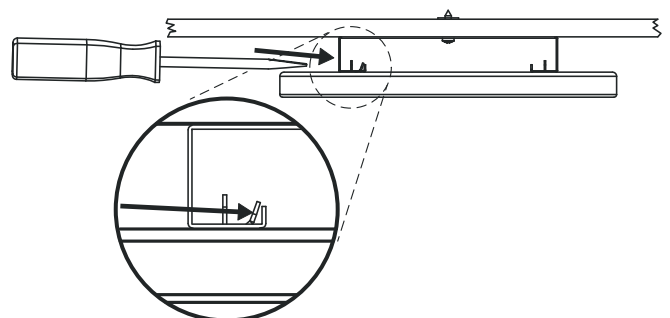

Figure 2.
- The front part is hooked into the bracket of the mounting frame and can be locked (if necessary, e.g. ceiling mounting), see Fig. 2, ØD.